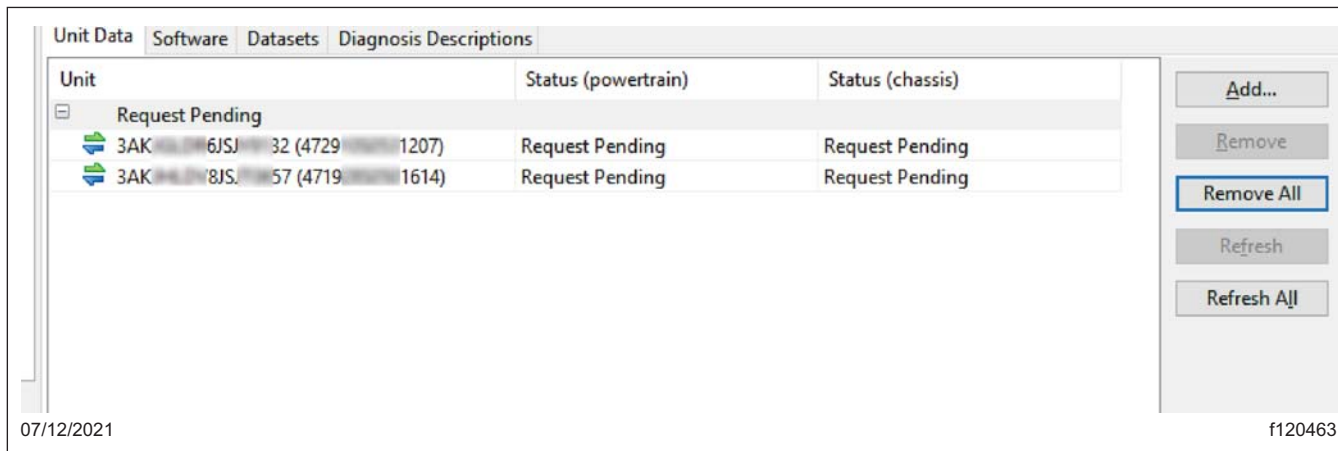

Fig. 8, Removing Request Pending Downloads in DiagnosticLink®
- If there are any items in the section 'Request Pending' downloads, they must be removed. To remove them, select each 'Request Pending' list item, then select 'Remove.' See Fig. 8.